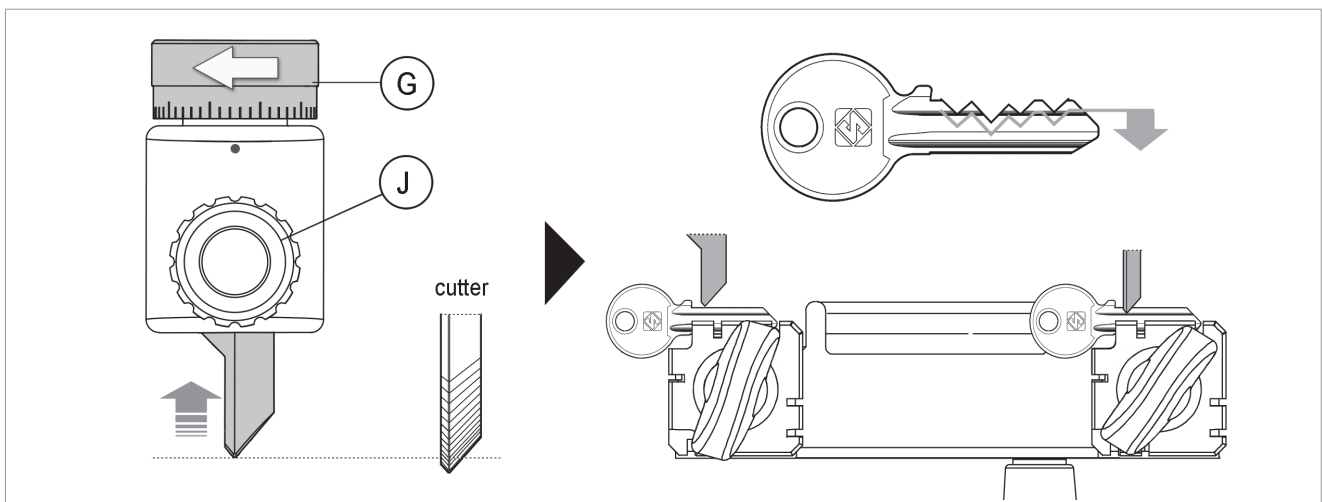

Fig. 23
- c) turn the ring nut (G) counterclockwise to return (deeper cuts) (Fig. 23).